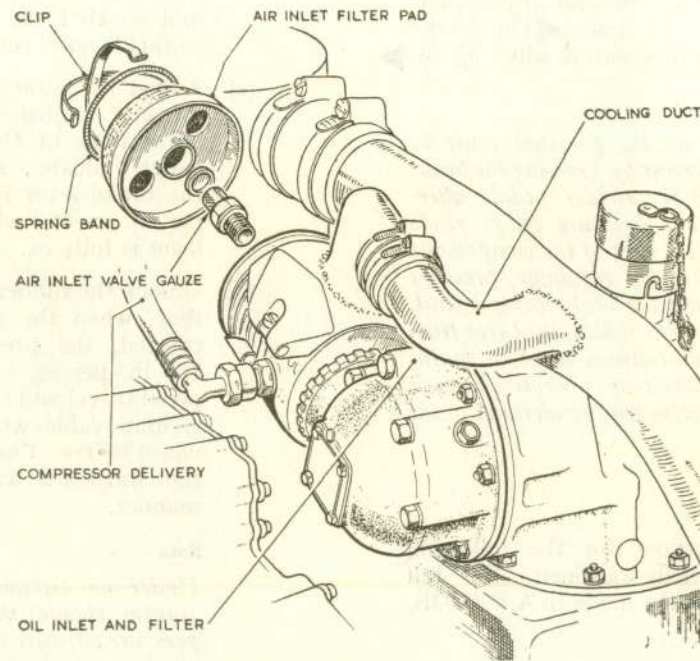

Fig. 2. Installation of compressor
- (1) *Compressor (fig. 2).* The two stage air compressor (Type SH.6/2A), mounted on the starboard side of the top engine wheel case, is designed to deliver air at a pressure of 450 lb. per sq. in., and is lubricated by engine high-pressure oil fed through the mounting flange.
- (2) *Pressure-relief valve.* This valve (Part No. R.V.10) acts as a safety valve by relieving excessive pressure in the system to atmosphere, and prevents back pressure on the second stage of the compressor.
- (3) *Oil-and-water trap.* This unit (Type No. OWT46/8) is mounted on the pneumatic panel between the ground charging point and the pressure regulator, and its purpose is to prevent oil and water entering the system.
- (4) *Pressure regulator.* The regulator (Type AR.5/450-2), controls the charging of the air reservoir so that any pressure in excess of that required for operating the system is automatically relieved to atmosphere. The safety relief valve incorporated in the regulator is set to relieve at a slightly higher pressure than the main regulating valve and acts as a safeguard should the latter fail.
- (5) *Air reservoir.* The air pressure is stored in the reservoir (Type E), which comprises a cylindrical shell with hemispherical ends; the inlet and outlet pipes project a few inches inside the reservoir to prevent any moisture from passing into the system.
- (6) *Pressure-maintaining valve.* This valve (Part No. PM.2) is fitted between the brake line circuit and anti-G circuit, so